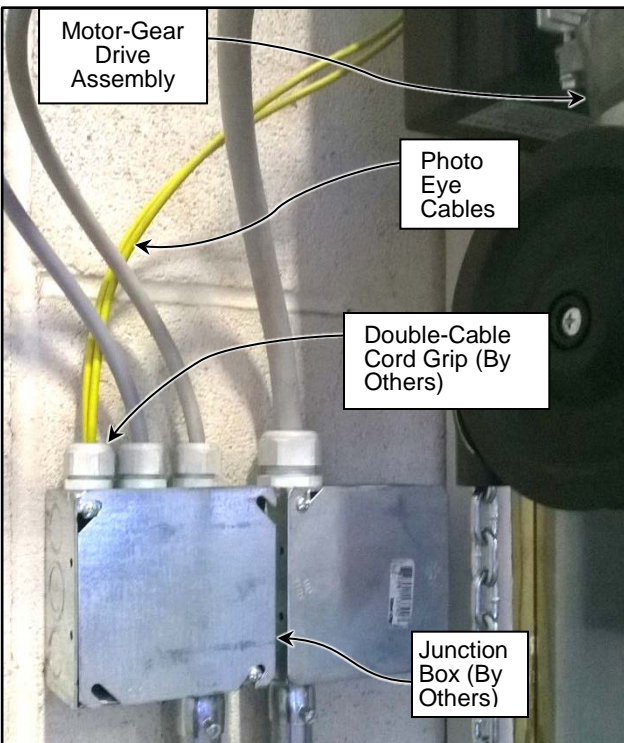

Figure 84
2. The control cables can be connected to the control panel as indicated on the electrical schematic shipped with the System 4 Control Panel. (See Figure 84)